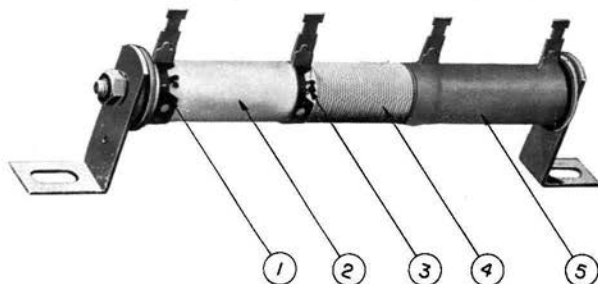

Figure 3-1. Vitrohm tubular resistor construction
1. *Construction*—A Vitrohm resistor, Figure 3-1, consists basically of a tubular ceramic core on which the resistive conductor is wound and the ends of which are secured to metal terminals by means of spot welding. The resistive conductor and the band portion of the terminal are then completely covered by vitreous enamel. Although the general construction of other manufacturers' products is similar to that of a Vitrohm resistor, there are major differences in method of manu-